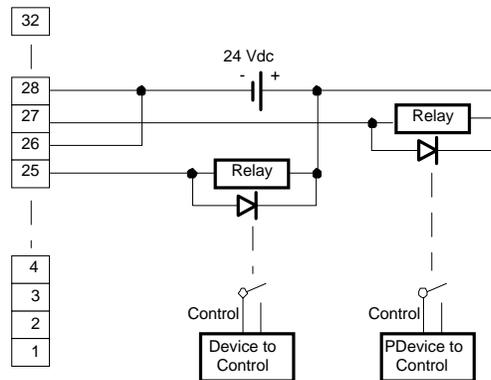

FIGURE 47. REMOTE CONTROL WIRING
5. Connect the device to be controlled through slave relays to L1 through L2 on the punchdown block (corresponding to relay numbers 1 to 8 assigned above) as illustrated in Figure 47.